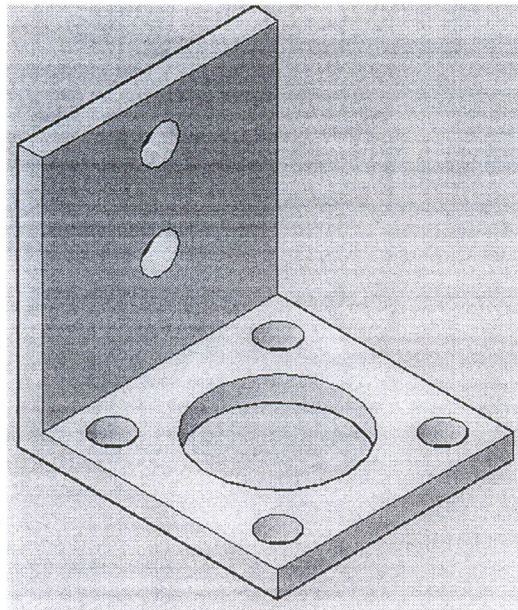

Figure 5: L Bracket
- (a) You are given an L bracket in Figure 5. State and explain briefly the most appropriate fabrication process that you would do to complete the fabricating task of the Cover Bracket.